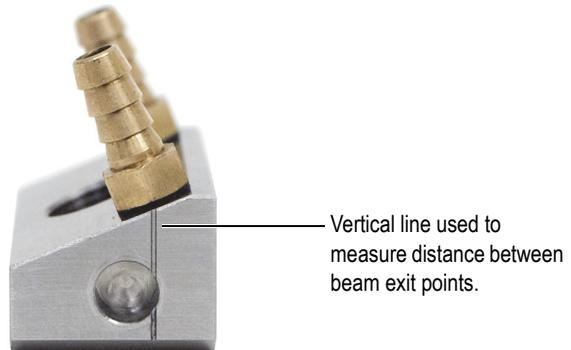

Figure 1-9 Vertical lines engraved on stainless steel wedges
- When using stainless steel wedges, measure the distance between the vertical lines engraved on wedges (see Figure 1-9 on page 15).